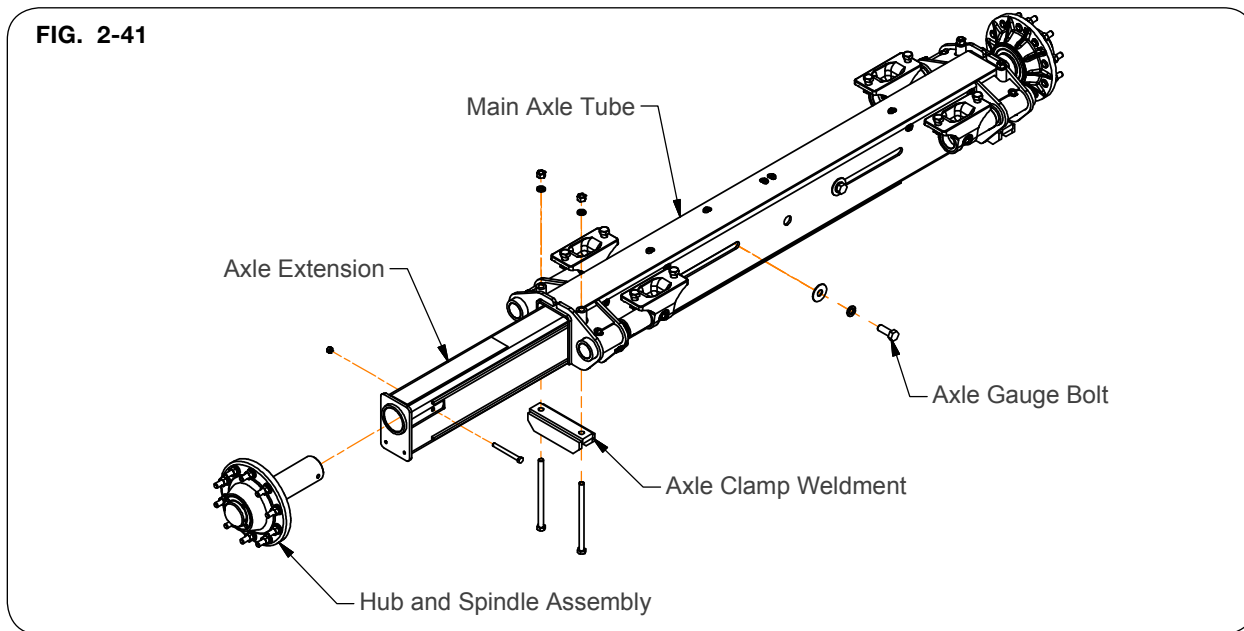

FIG. 2-41
- Tighten axle gauge bolts followed by axle clamp bolts. Refer to MAINTENANCE section for proper torque specifications. (FIG. 2-41)